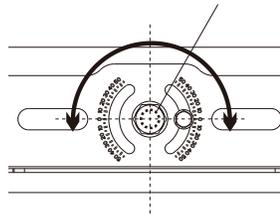

Fig. 3
2. Use center screw and angle adjustment screw to set the mounting angle (Fig. 3).